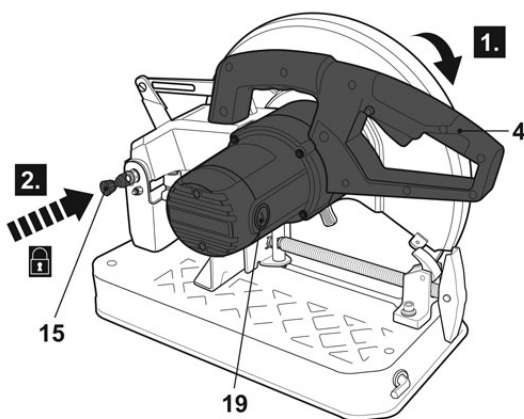

Fig. 1
- > Guide the motor unit (19) downwards by pressing the operation handle (4) down.
- > Once the lowest position is reached, push the unlocking pin (15) in to lock the motor unit in position (Fig. 1).
- > Ensure the motor unit (19) is properly locked before releasing the operation handle (4).